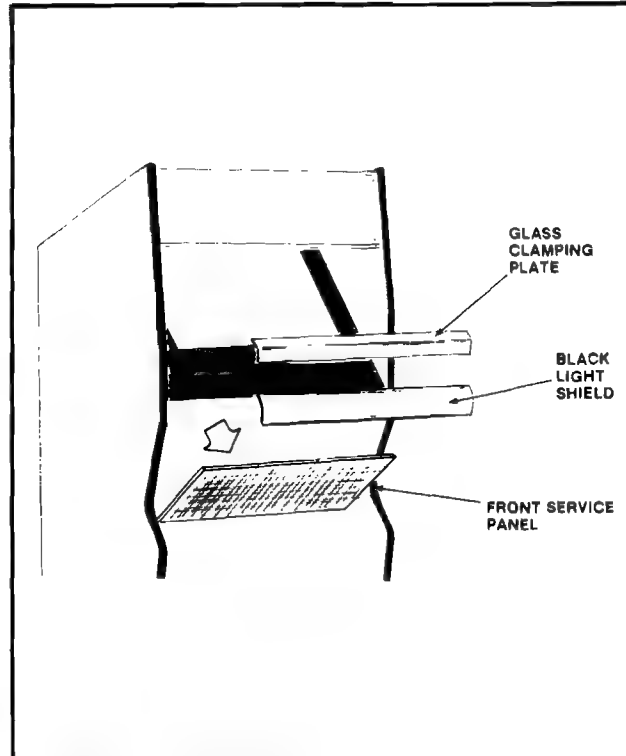

Figure 2-54 Removing the Front Service Panel - Upright
- ☐ Tilt it back to clear the black light and lift it up and out as shown in Figure 2-54.